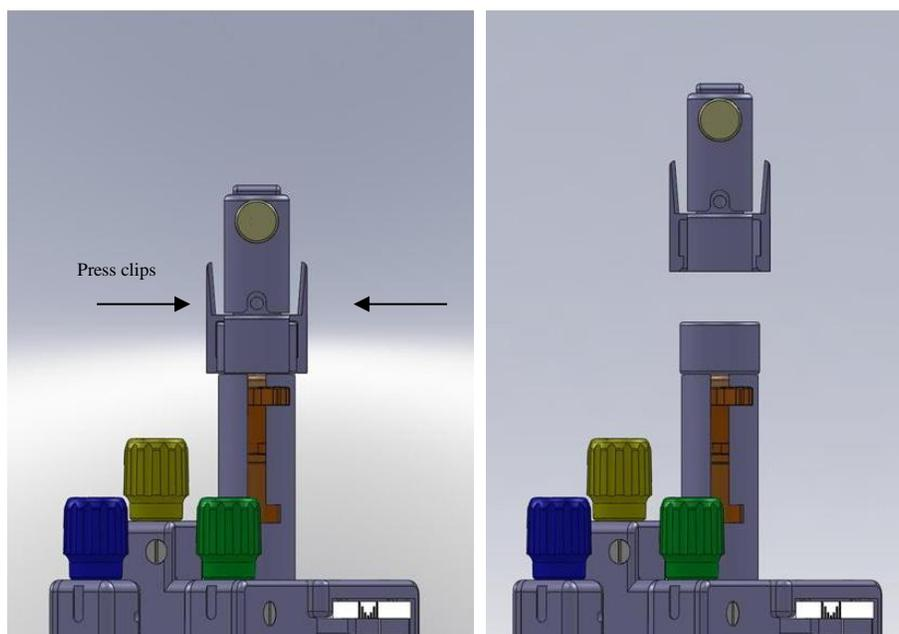

Figure 20: Removing the Dock and Lock
4. Remove the Dock and Device Lock Assembly by squeezing the clips to separate it from the SMARTFrame®. **See Figure 20.**